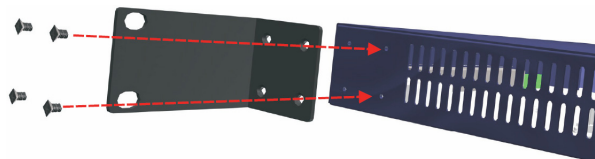

FIG. 3 Attaching the Brackets
1. Attach the brackets to the device using the screws provided (FIG. 3):